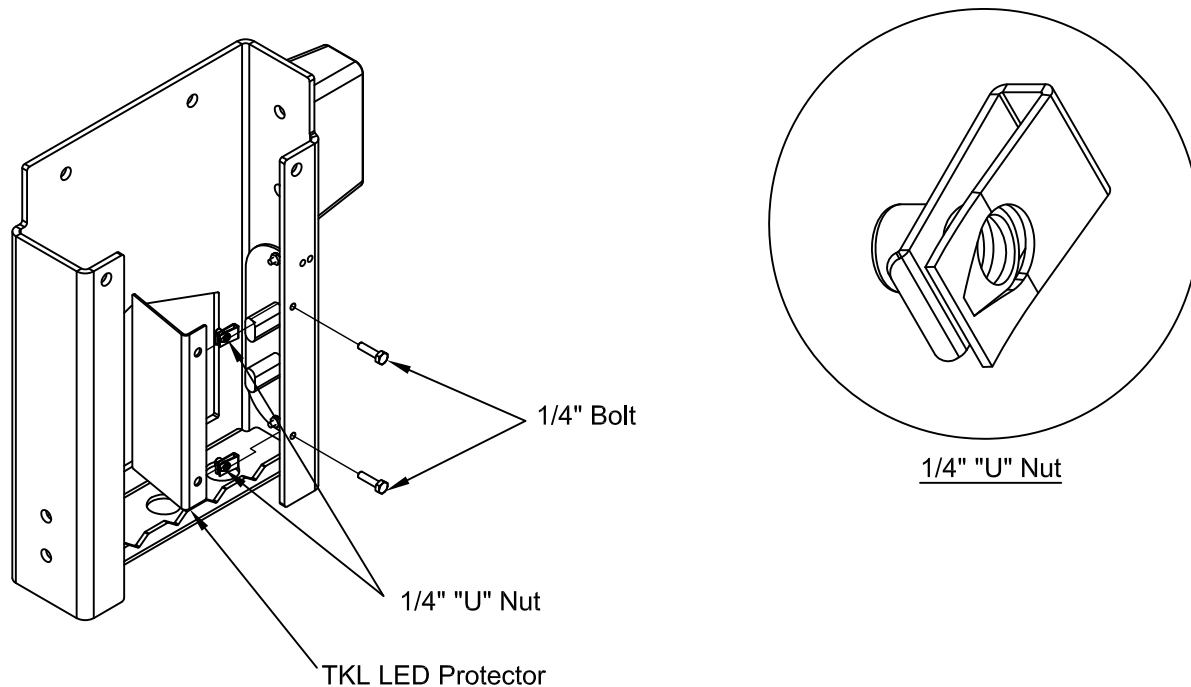

Figure 8
9. Place "U" nuts over bent flange on LED protector plate (Figure 8).
9. Bolt the LED Protector plate on the same holes where the cover plate was originally installed with the provided two (2) 1/4"x1" bolts and two (2) 1/4" "U" nuts (Figure 8).